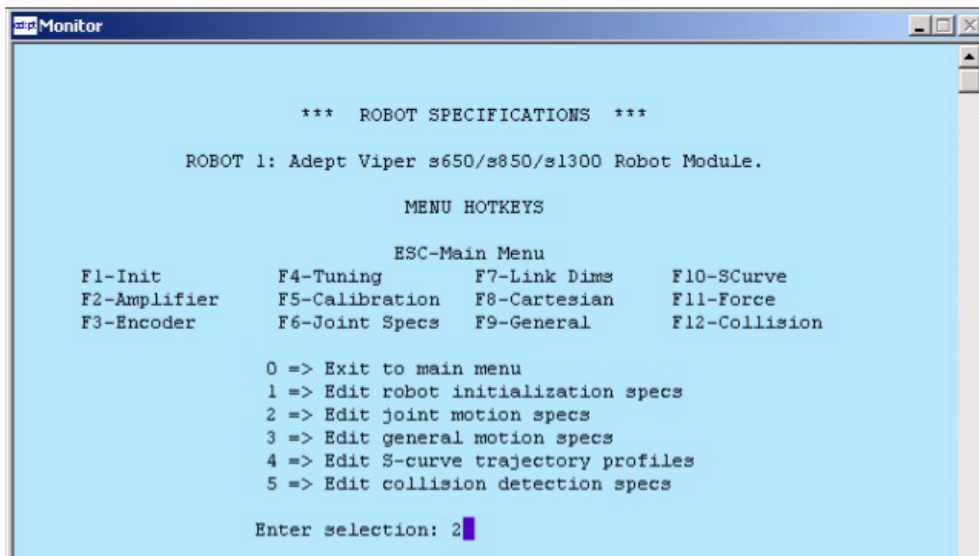

Figure 1-13. Robot Specs Menu
3. In the next menu, select option 2 => Edit joint motion specs. See Figure 1-13.
3. In the next menu, select option 2 => Edit joint motion specs. See Figure 1-13 on page 15.